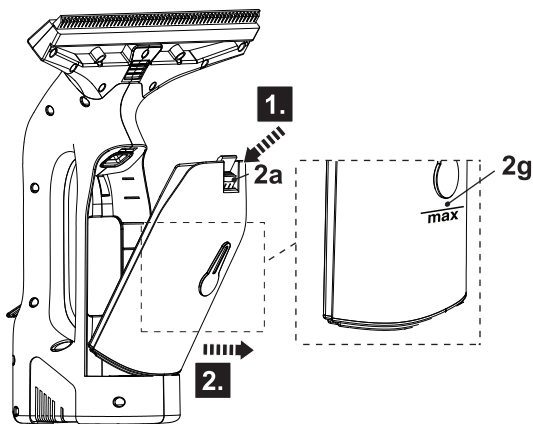

Fig. 5
- > Press down the water tank lock (2a) (Fig. 5, step 1). The dirty water tank (2) is popped up slightly.
- > Remove the dirty water tank (2) from the product (Fig. 5, step 2).
- > To empty the dirty water tank, open the easy empty plug (2b), tilt the dirty water tank (2) and pour the dirty water out.